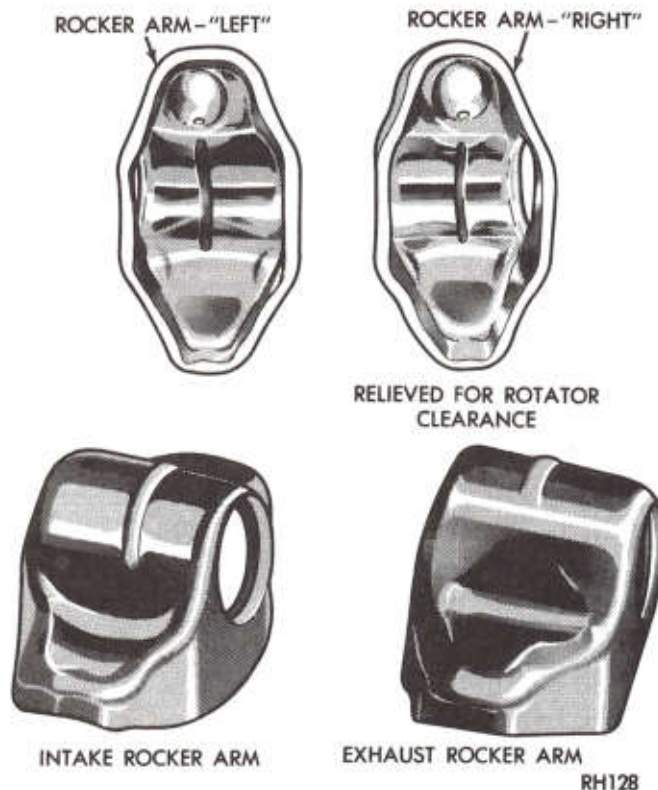
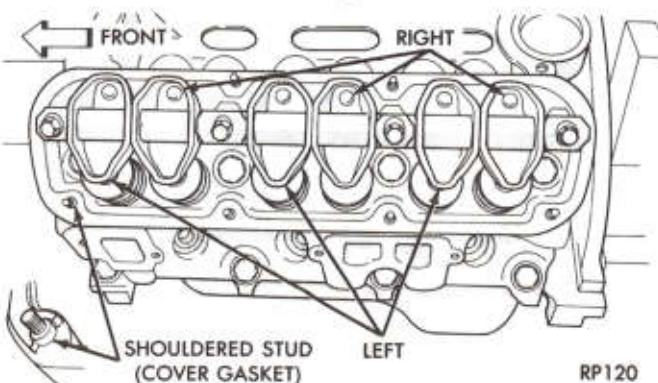

Fig. 5—Intake and Exhaust Rocker Arm Identification
Fig. 6—Rocker Arm Location—Left Bank
(1) Disconnect spark plug wires by pulling on the boot straight out in line with plug.
(2) Disconnect closed ventilation system and evaporation control system from cylinder head cover.
(3) Remove cylinder head cover and gasket.
(4) Remove four rocker shaft bolts and retainers.
(5) Remove rocker arms and shaft assembly.
(6) If rocker arm assemblies are disassembled for cleaning or replacement, refer to (Fig. 5) for rocker arm identification, and (Fig. 6) for positioning on the shaft.
(7) On engines with exhaust valve rotators, exhaust rocker arm must have relief for clearance. Refer to (Fig. 5).